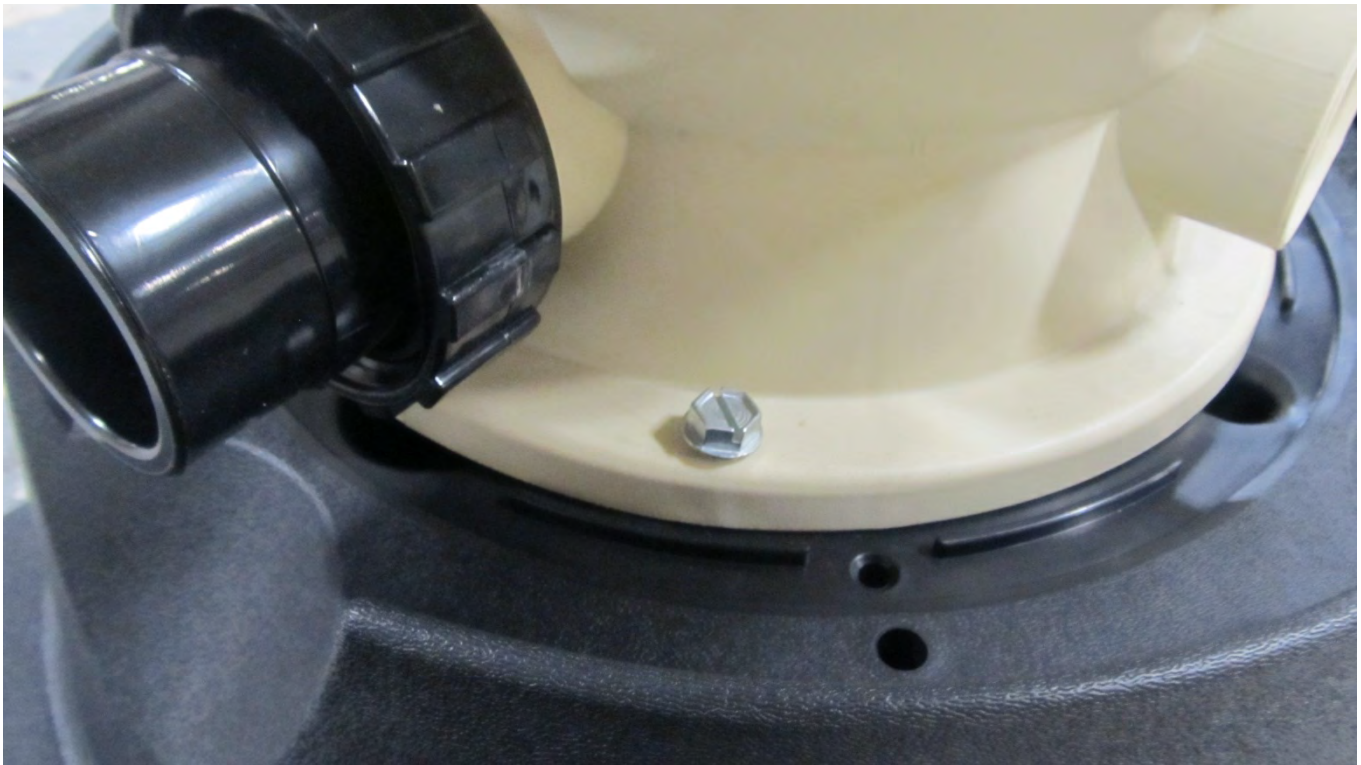

Figure 8
3. Install a screw through one of the screw holes in the tank foot into the system base (see Figure 8). Do not fully tighten the screw into the base at this time. Repeat with the other hole located 180° opposite the first one.